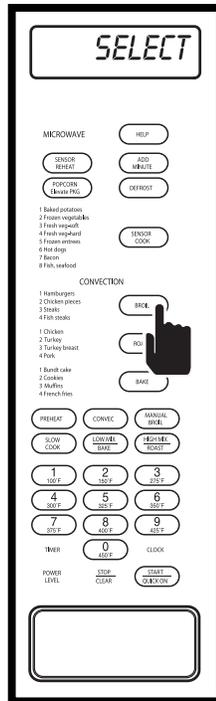

Figure 3-94.
1. Press BROIL key, “SELECT - FOOD - NUMBER ” will flash on display. (See Figure 3-94)